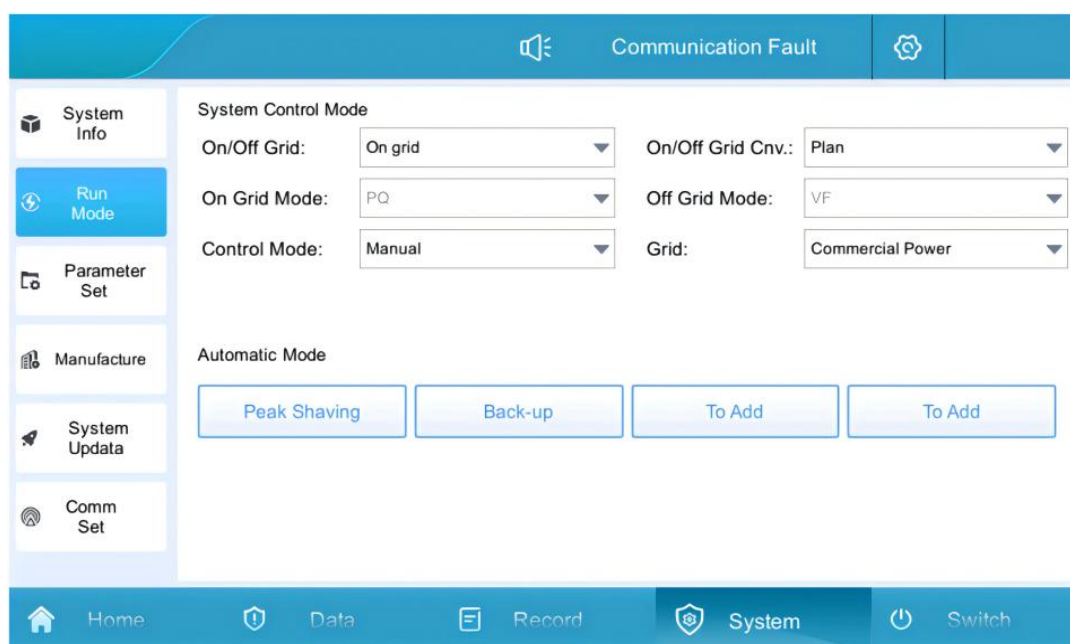

Figure 3.2-1 Operating Mode Interface
4. Enable all modules on the "Switch" page of the HMI integrated screen (some modules can also be turned on as needed), click "System Start", and the normal startup time is about 30 seconds, as shown in Figure 3.2-1.